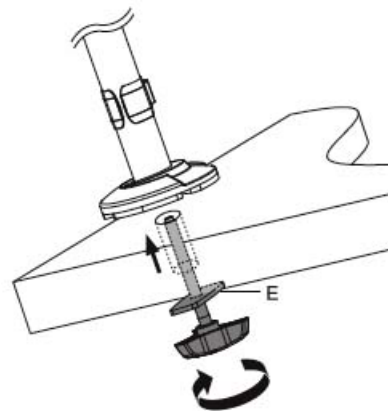

Figure 7
5. Insert the clamp screw into the Grommet Clamp (E). Position the Tube Support on the mounting surface, then secure it using the Grommet Clamp (E) and clamp screw, see Figure 7. **Warning:** Carefully screw the clamp screw into the Grommet Plate to prevent cross-threading and damage to the clamp screw.